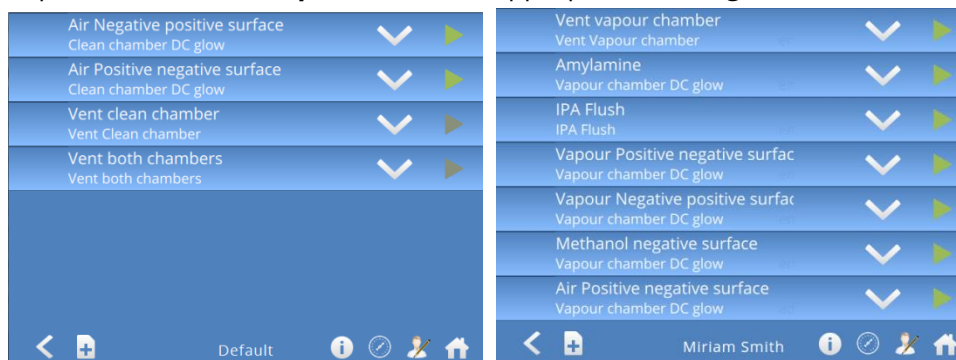

Figure 3-2. (left) Clean and (right) Vapour recipes
1. From the *Home* screen, tap on the **Clean** or **Vapour** button. The appropriate recipes screen is displayed (see Figure 3-2).